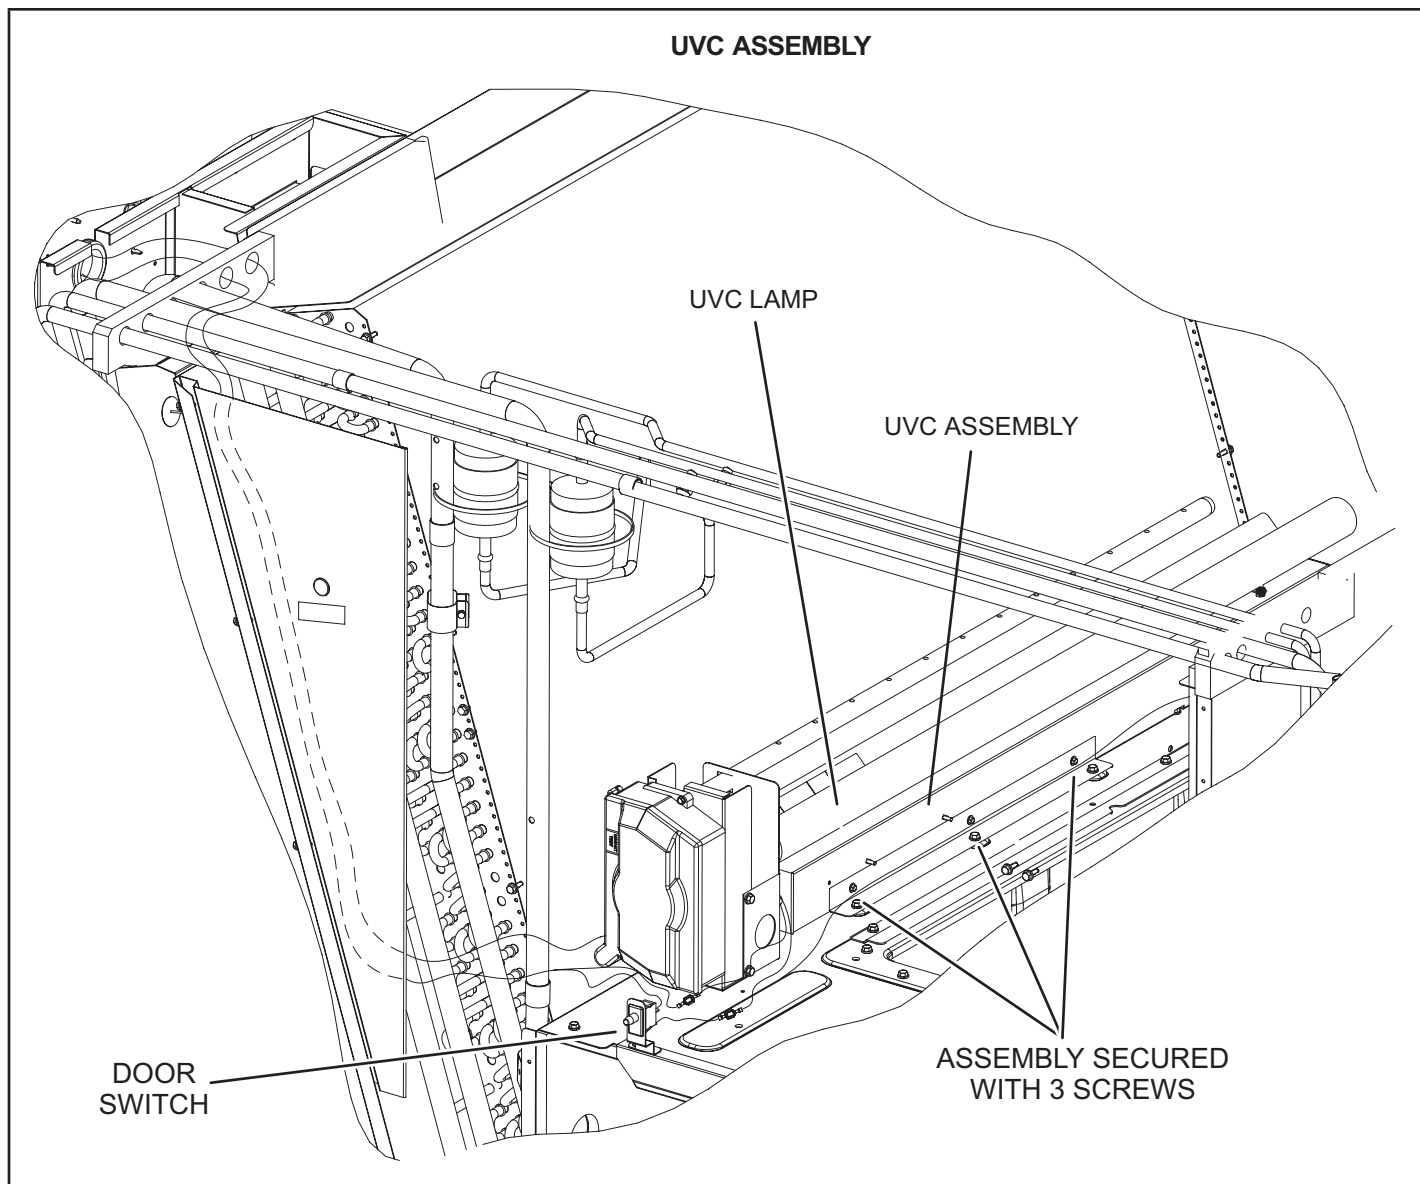

FIGURE 42
When the UVC light is factory installed, the lamp is shipped in a foam sleeve. The lamp is attached to the UVC light assembly on the blower deck. See FIGURE 42. Remove the lamp and install into the UVC light assembly as shown in steps 2 through 11.
- 5 - Remove and retain the (3) screws securing the UVC assembly. Carefully slide the complete UVC assembly out through the blower access door. See FIGURE 42.
- 8 - Carefully place the UVC assembly on the blower deck. Line up the mounting holes on the UVC assembly with the mounting holes on the blower deck. See FIGURE 42. Use the retained screws provided to attach the UVC assembly in place.